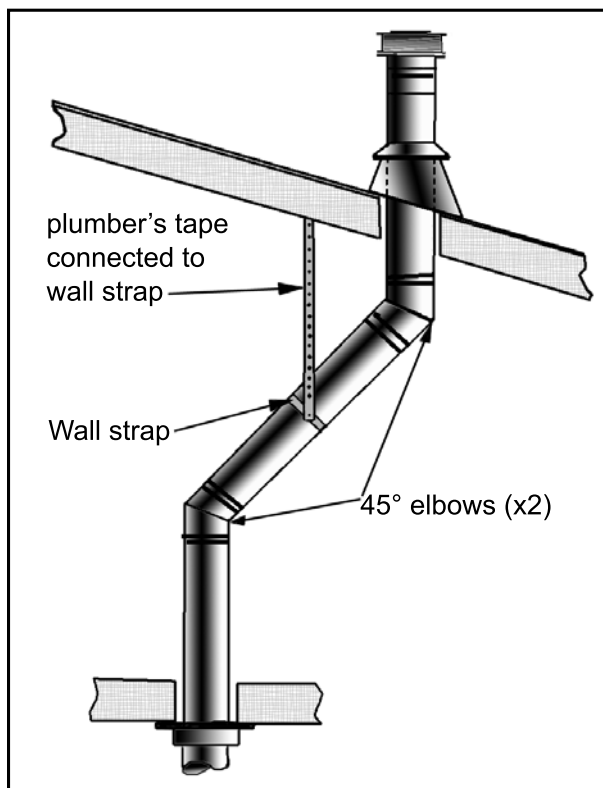

Figure 33: Use of Wall Straps.
- (a) If an offset is necessary in the attic to avoid obstructions, it is important to support the vent pipe every 3 feet (91 cm), to avoid excessive stress on the elbows, and possible separation. Wall straps are available for this purpose (see Figure 33).